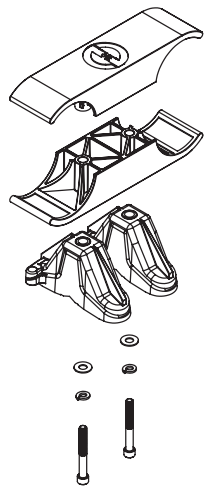

Figure 6
5. Place the **Bottom Tube Clamp** on top of the tubes and secure with **Mounting Clamp Assembly** and **3.5" King Bolt** as shown in *Figure 6*